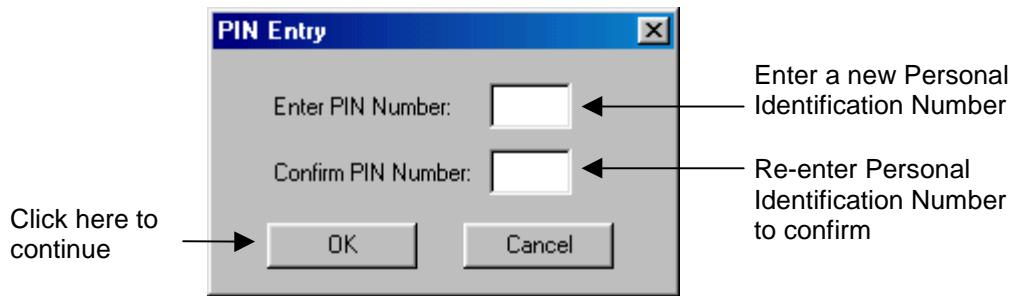

Figure 4.6 PIN Entry Window
4. A PIN Entry dialog box will appear. Enter a 4-digit numeric PIN to be associated with that card, and reenter the numbers in the Confirm PIN Number field. Click Ok (Figure 4.6).